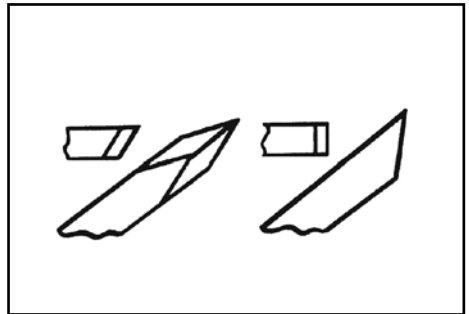

FIG. 12
10.3 THE THEORY OF TURNING – FIGS. 12 – 13
The scraping chisels are the flat nose, round nose and spear point. These are not honed on the flat sides - the wire edges produced by scraping are left on to aid in the scraping process (Fig.12). Shows the two types of chisel.